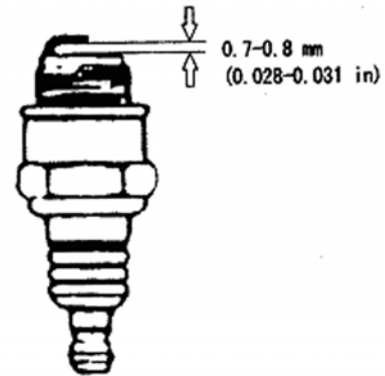

Figure 21- Measuring the spark plug gap
4. Measure the plug gap with a gauge (see figure 21). The gap should be 0.7-0.8 mm (0.028-0.031 in).